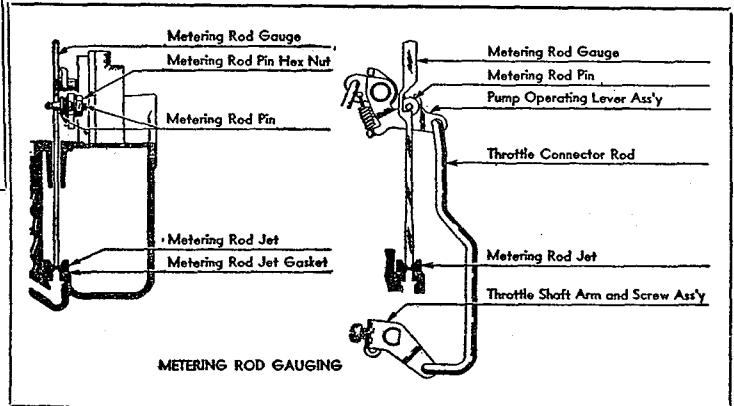

Fig. 5
- 47A. **Optional Adjustment:** (See Fig. 5.) Correct setting of metering rod is important and must be made after pump adjustment. Install metering pin and spring assembly, washer and nut loosely on pump operating lever. Insert gauge (tool T109-26) in